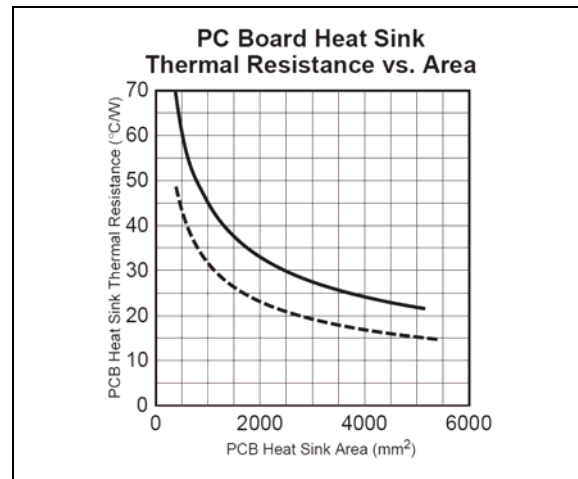

FIGURE 4-3: Excerpt from the LDO Book.
- $R_{\theta_{CA}} = 53^\circ C/W$ (as read from Figure 4-3)